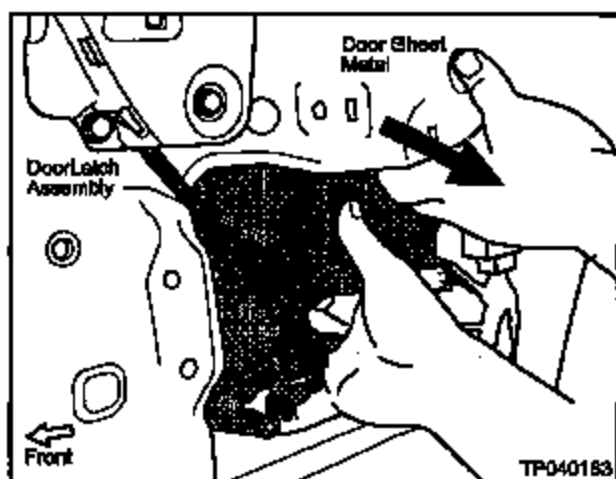

Figure 17
- a. Position the Door Latch Assembly in the Sliding Door (see Figure 17).
- If needed, pull out on the Door Sheet Metal (see Figure 17) to fit the Latch Assembly back into the door.